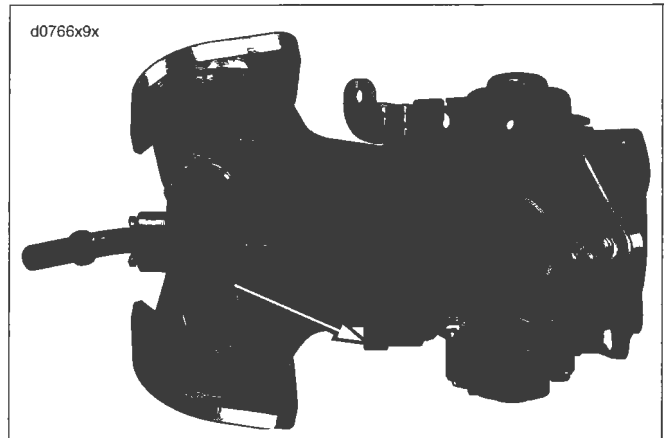

Figure 4-15. Intake Air Temperature Sensor Location
4. See Figure 4-15. Unplug IAT sensor connector [89].
2. See Figure 4-15. Insert sensor into induction module with electrical connector facing toward the left side of the motorcycle.